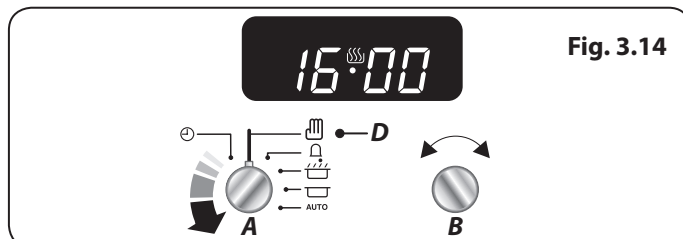

Fig. 3.14
To cancel any automatic settings turn the **Timer (A)** knob to the **Manual (D)** setting and release (**Fig. 3.14**).